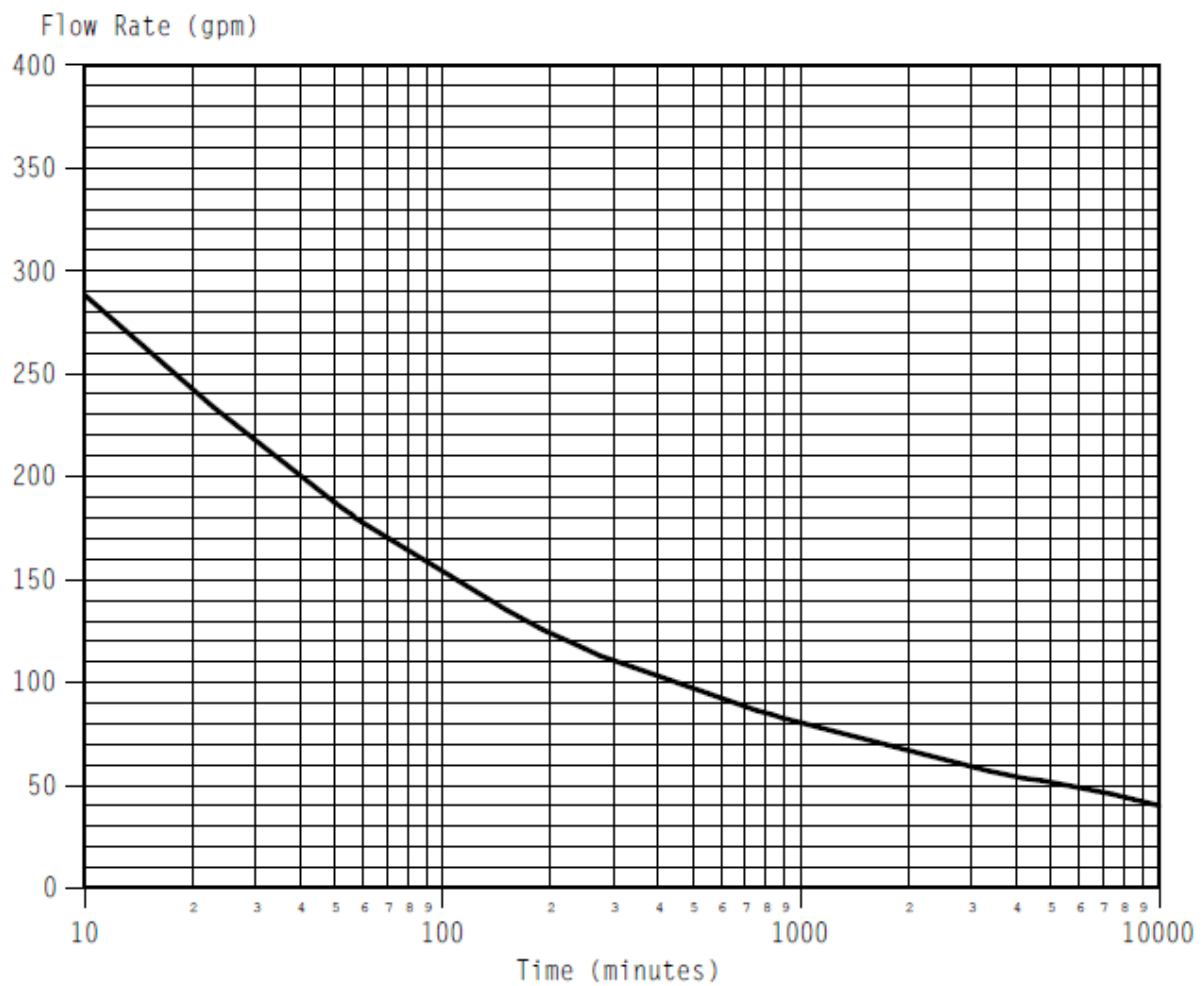

FIGURE ECA11-1. MINIMUM INJECTION FLOW RATE VERSUS TIME AFTER TRIP
- 1) Determine minimum injection flow required from Figure ECA11-1.
The minimum injection flow required per Figure ECA11-1 is _____.